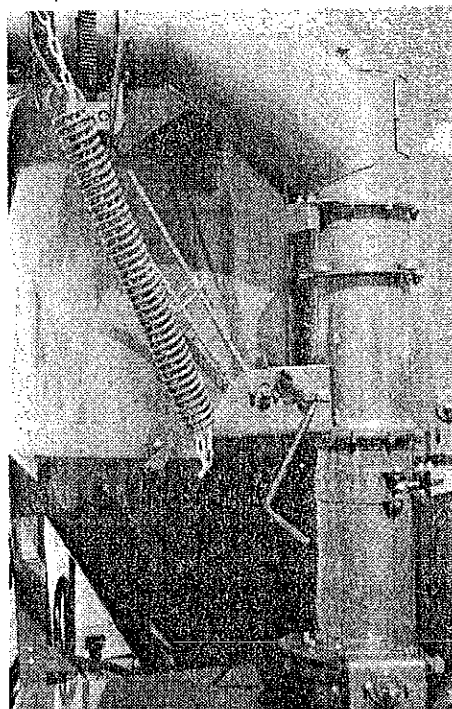

FIGURE 14 - MANUAL LIFT & SWING
1. **MANUAL CRANK:** (See figure 14) insert crank on the shaft next to channel to lift and on the shaft at the rear of lower auger housing to swing the unloading auger. A brake is provided to prevent movement after positioned.